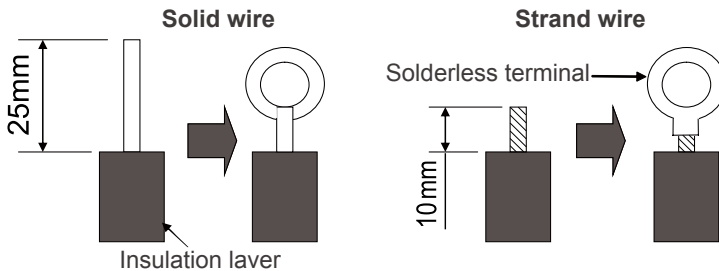

Fig.27
### (1). For solid core wiring (Fig.27)
### (2). For strand wiring (Fig.27)